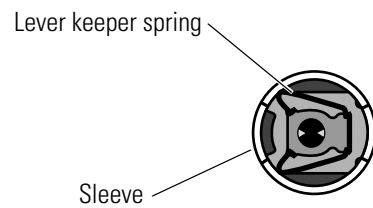

Figure 3.13 Removing the lever keeper spring
2. Using a pair of needle-nosed pliers, reach into the sleeve and remove the lever keeper spring, as shown in Figure 3.13.